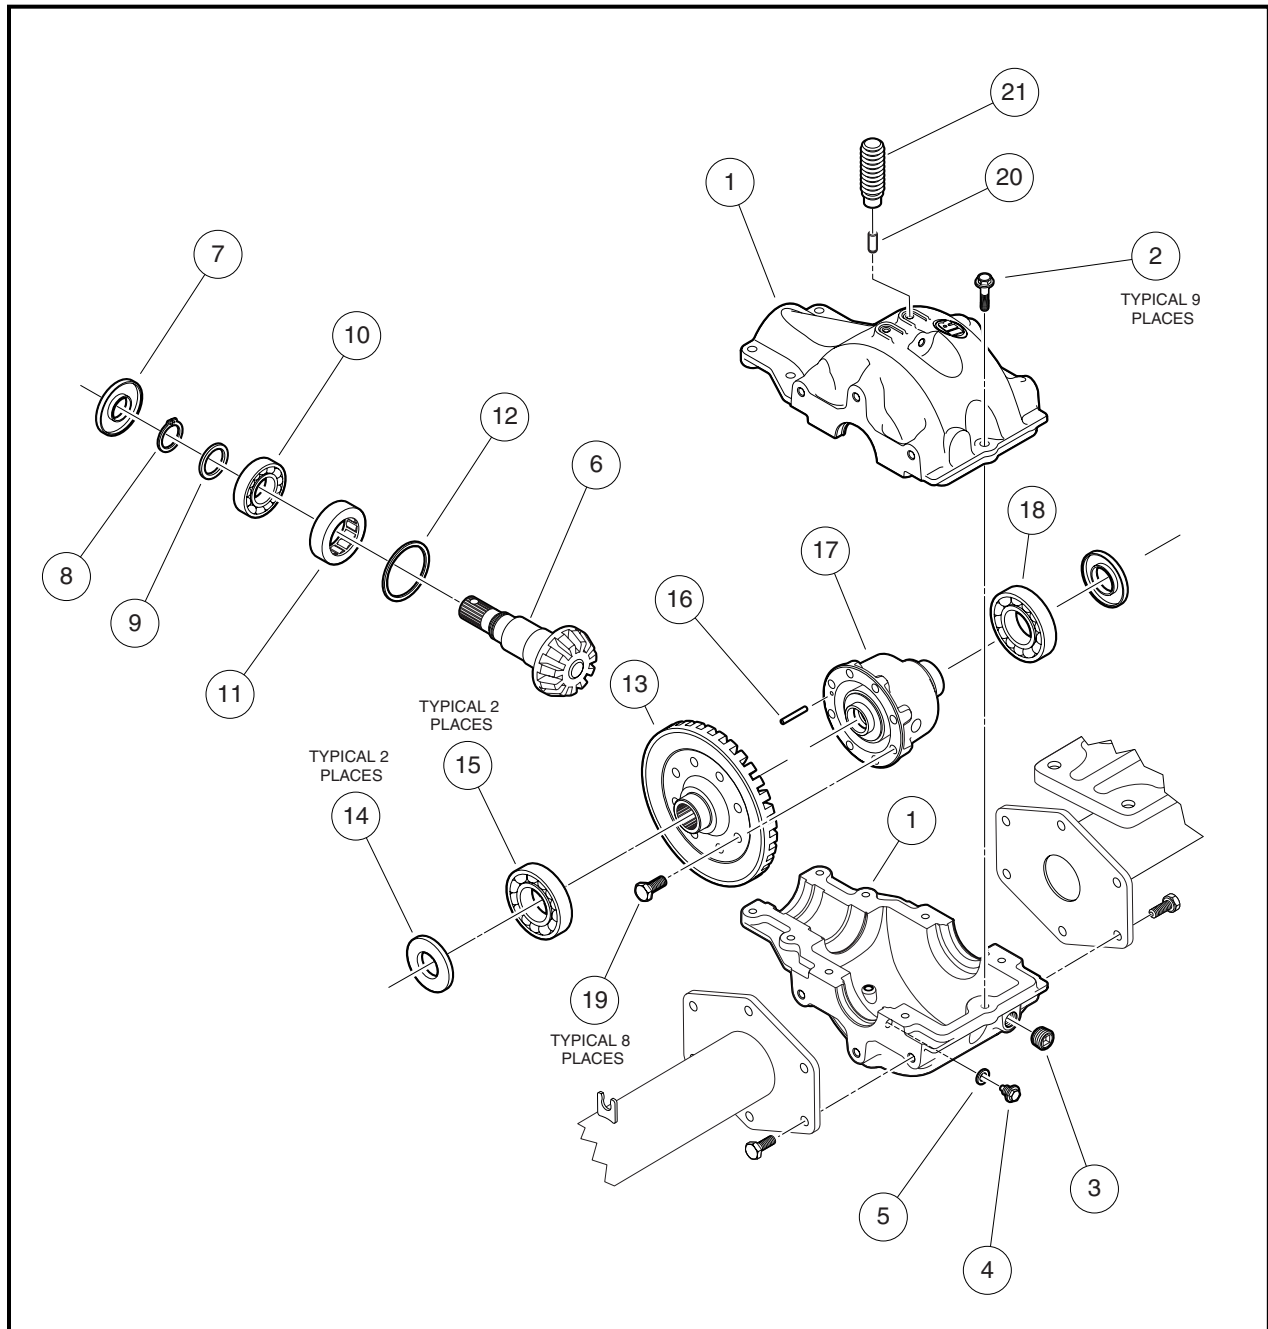

Figure 10-4 Differential Assembly
1. Remove the bottom drain plug (4) and plug washer (5) and drain the lubrication oil from the differential housing (Figure 10-4, Page 10-3).
5. Remove the nine hex flanged-head bolts (2) from the housing (**Figure 10-4, Page 10-3**).
1. Remove the pinion shaft oil seal (7) (**Figure 10-4, Page 10-3**).
2. Remove the pinion gear and shaft (6) with bearings.
2. Slide the thin washer (12) down onto the pinion gear race (**Figure 10-4, Page 10-3**).
5. Slide the thin washer (9) down onto ball bearing race (**Figure 10-4, Page 10-3**).
1. Remove the two axle shaft oil seals (14) from the differential housing (**Figure 10-4, Page 10-3**).
4. Install two new oil seals (14), one on each side of the ring gear and carrier assembly, and seat them in housing (**Figure 10-4, Page 10-3**). Also see **Figure 10-20, Page 10-9**.